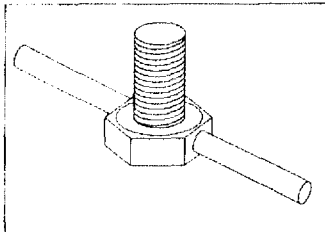

Fig. 4: Lock Knob with Twist Bar.
Unthread and remove the lock knob with twist bar, Fig. 4, and two washers from the base of the Equatorial Head (5), Fig. 3. Place the Equatorial Head on the Tripod Head (4), Fig. 3, aligning it so that the Azimuth Tangent Arm (2), Fig. 3, slips between the two Fine Azimuth Adjustment Knobs (1), Fig. 3.
With the Equatorial Head (5), Fig. 3, sitting flat on the Tripod Head (4), Fig. 3, place the small washer, then the large washer over the threads of the lock knob with twist bar (Fig. 4) and from the underside of the Tripod Head